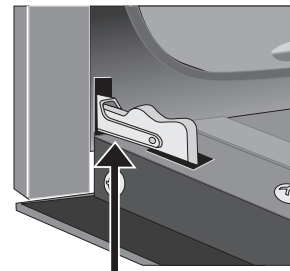
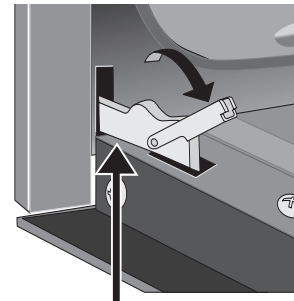

Figure 39: Door hinge locks
Figure 40: Unlocking door hinge
2. Pull up the lock located on each hinge support toward front of the oven until the lock stops. You may have to apply a little upward pressure on the lock to pull it up (Figure 39 and Figure 40).
4. Push the door hinge locks up toward and into the oven frame on both left and right oven door hinges to the locked position (Figure 39).